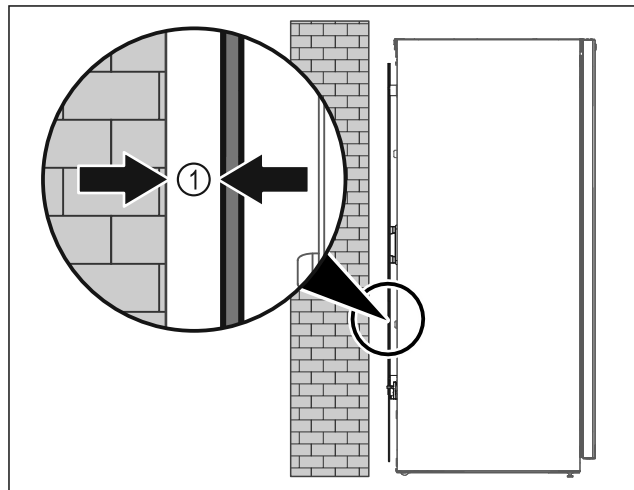

Fig. 52
- ▶ Set up the appliance either free-standing or directly against a wall at a minimum distance of 5 mm Fig. 52 (1).